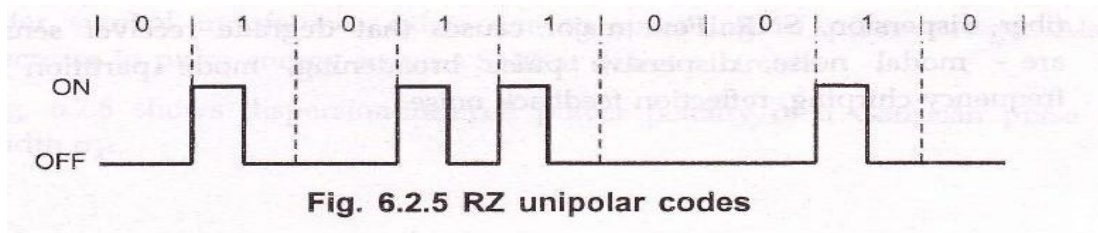

Fig. 6.2.5 RZ unipolar codes
- In unipolar RZ data pattern a 1-bit is represented by a half-period in either first or second half of the bit-period. A 0 bit is represented by zero volts during the bit period. Fig. 6.2.5 shows RZ data pattern.